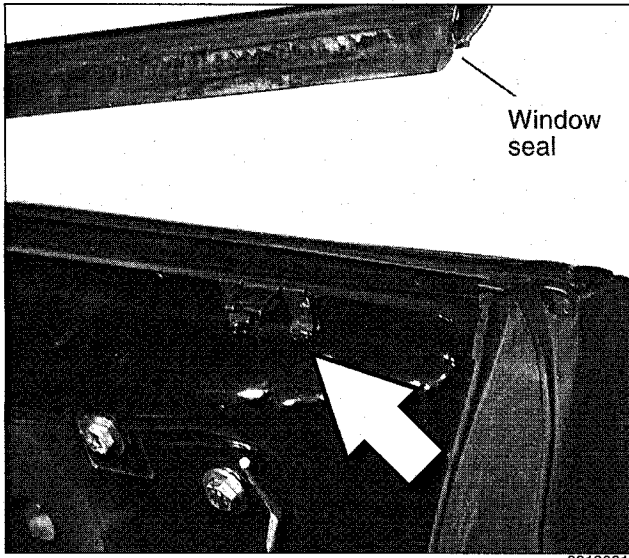

Fig. 9. Lift window inner sealing lip from door. Note metal retainer (arrow).
- Lift up and remove window inner sealing lip. Remove all metal retainers under sealing lip. See Fig. 9.